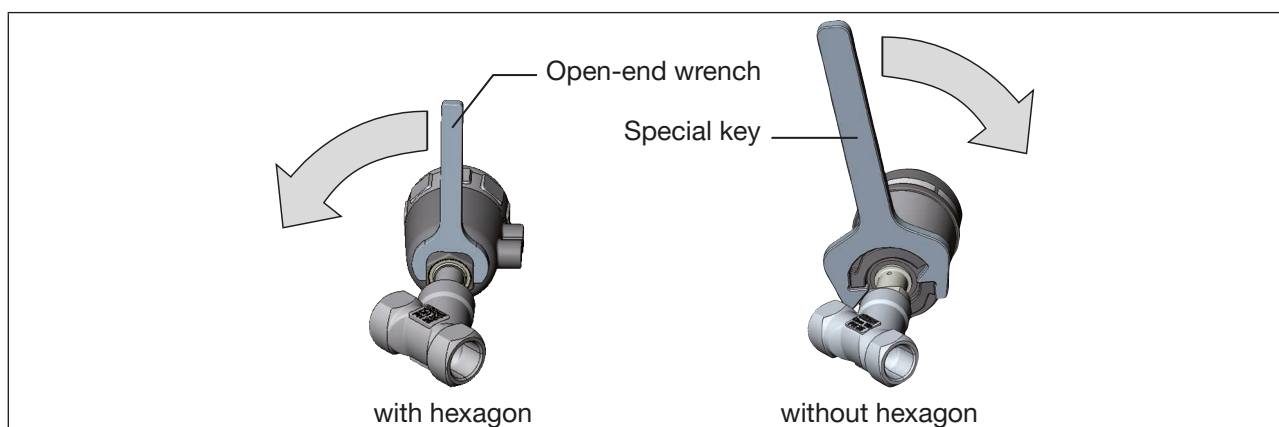

Figure 30: Rotating with special key / open-end wrench
► Rotate the actuator module in the specified direction only (see “Figure 30”).